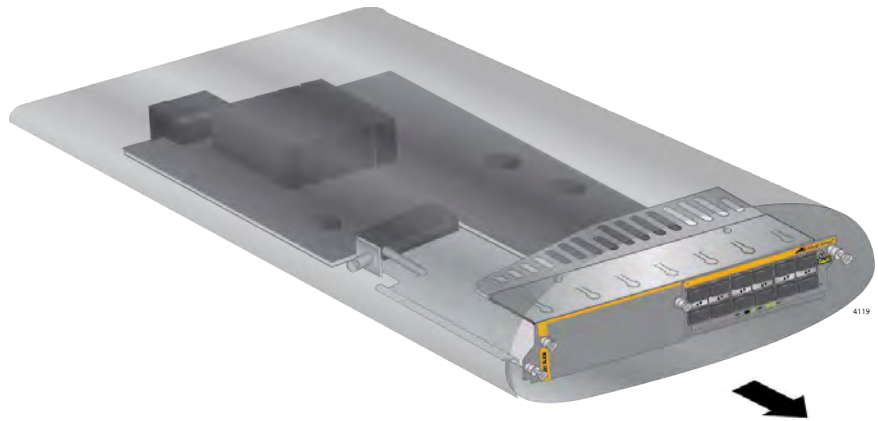

Figure 79. Removing the AT-SBx81XLEM Line Card from the Anti-static Bag
2. Carefully remove the card from the anti-static bag. Refer to Figure 79 on page 155.